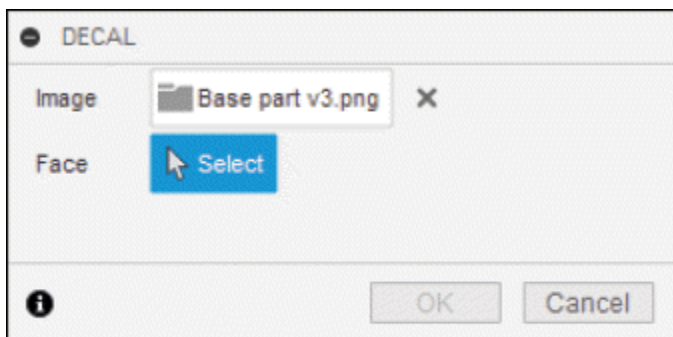

Figure-8. DECAL dialog box
- Select desired image which you want to import and click on **Open** button from **Open** dialog box. The **DECAL** dialog box will be displayed with the image inserted; refer to Figure-8.